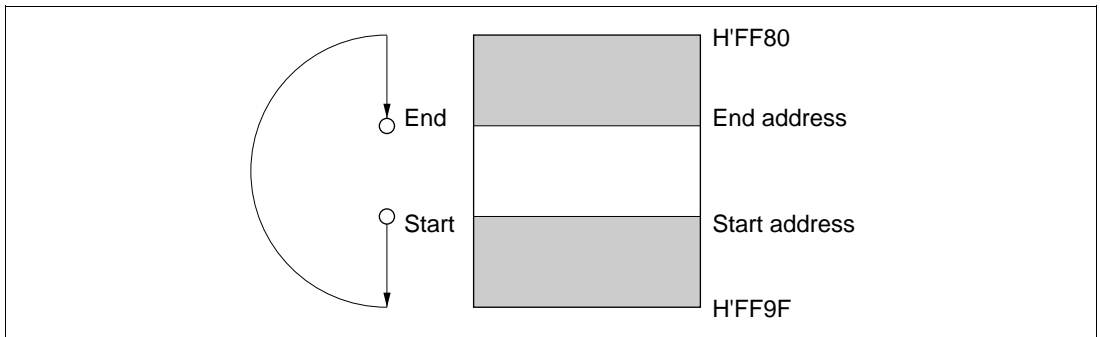

Figure 10.6 Operation When End Address is Smaller than Start Address
- The start and end addresses of the transfer data area are set in STAR and EDAR. If the end address is set smaller than the start address, as shown in figure 10.6, the transfer wraps around from H'FF9F to H'FF80 and continues to the end address. If the start address and end address are the same, only one byte of data will be transferred.